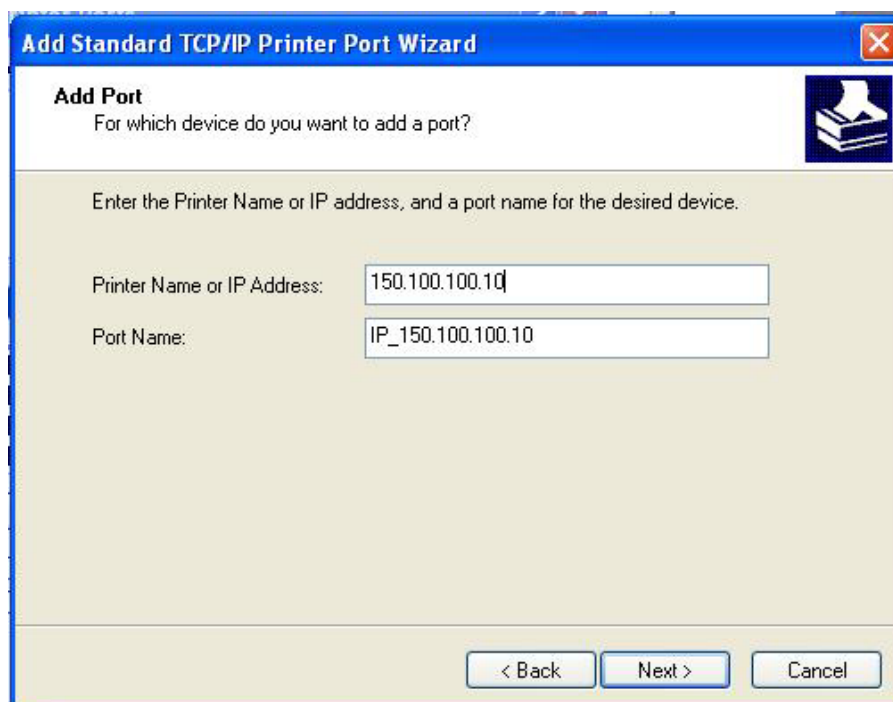

Figure 3-15, TCP/IP Wizard Entry Screen
6. Input the same IP Address as the printer in the field adjacent to the Printer Name/ IP Address prompt. Press the Next button. (Figure 3-15)